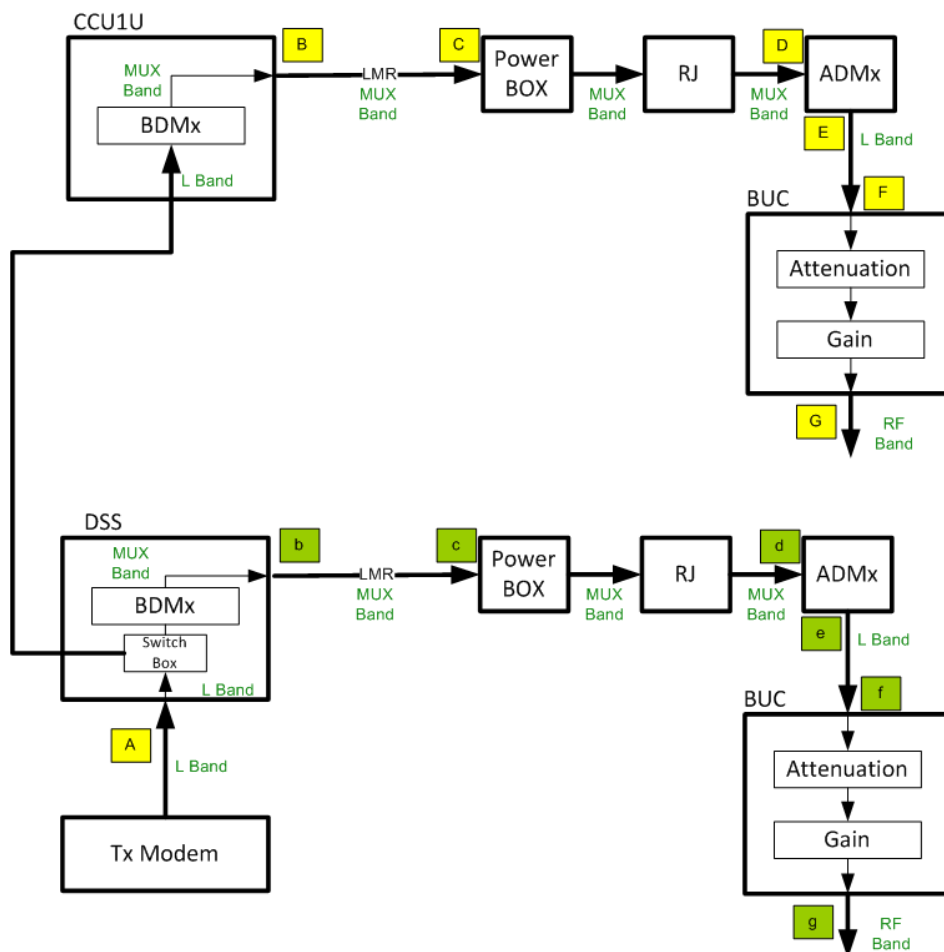

Figure 4-14: Dual OceanTRx L-Band Tx Path
- On the first path's system (see yellow letters in Figure 4-14 above), the LMR-600 cable length is 50m, 16W Ku Band BUC, BUC internal attenuation is 0dB, Tx L-Band is 1200MHz, CCU "BDMx" attenuation is "0" dB and the "DSS" attenuation is "-5dB". As result of this example, the derived modem Tx L-Band Level for P1dB of BUC is: **-22.6 dBm**.
- On the second path's system (see green letters in Figure 4-14 above), the LMR-600 cable length is 100m, 40W C band BUC, BUC internal attenuation is 0 dB, Tx L-Band is 1200MHz, CCU "BDMx" attenuation is "0" dB and the "DSS" attenuation is "-5dB". As result of this example, the derived modem Tx L-Band Level for P1dB of BUC is: **-8.4 dBm**.